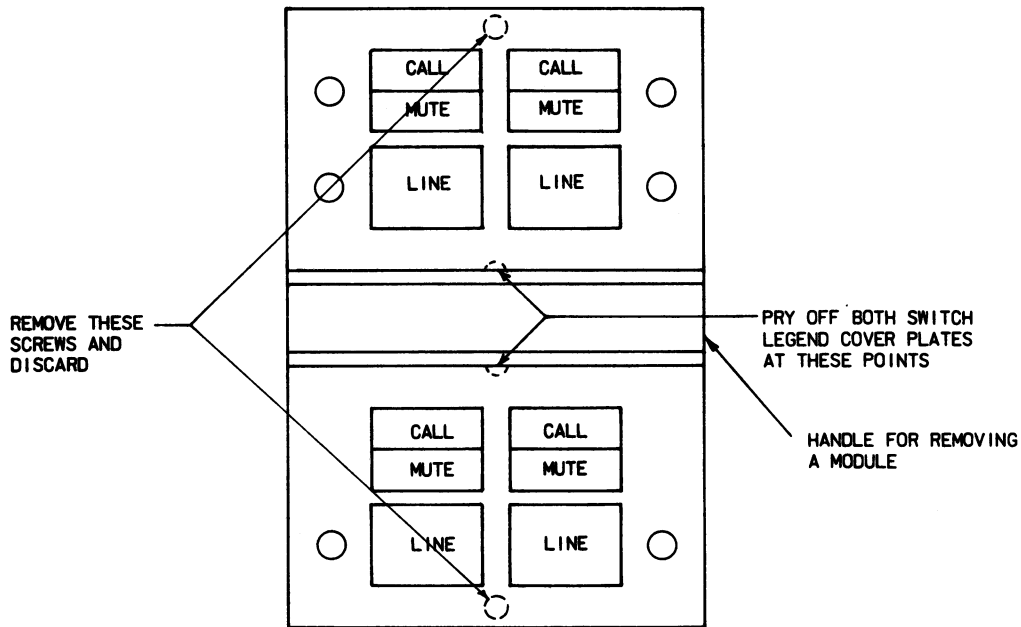

Figure 7 - Module, Legend Cover Plate
1. Before trying to remove any console module by its handle, perform the following steps; (See Figure 7).
- b. Remove the (2) screws and discard.